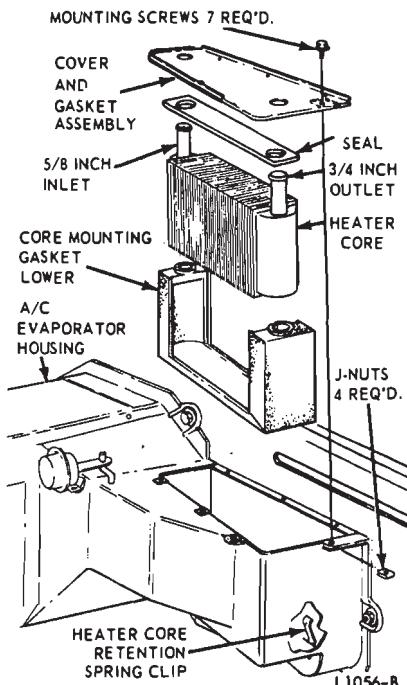

FIG. 38—Heater Core Removal—Ford, Mercury and Meteor
5. Remove seven heater core cover attaching screws and remove the core cover (Fig. 38).